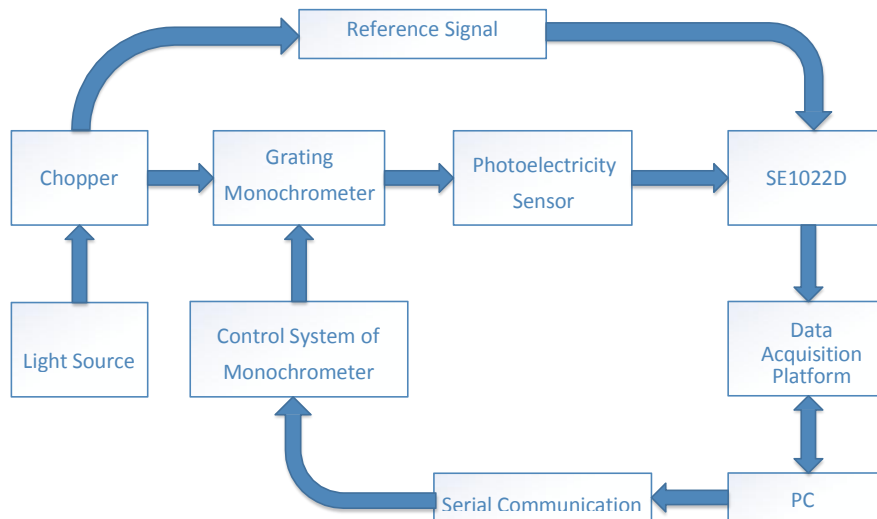

Fig.96 Spectral Measurement Platform Diagram
2. Use a BNC cable to connect the output of the function signal generator and the A/I input of the SE1022D. Use another BNC cable to connect the reference signal of the function signal generator and the REF IN of the SE1022D, as is shown in Fig.96.
Use a BNC cable to connect the data collection platform and the CH1 OUT of the SE1022D. The sketch is shown in Fig.96.